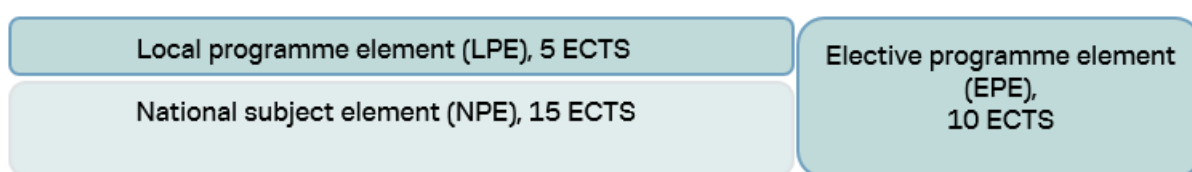

Figure 4: ECTS distribution, Semester 4
The student must complete a Specialization element (SE) in Semester 4. The student must bring to the Specialization element the knowledge gained from the subject areas of the programme. Figure 4 shows when in the semester the element is taken. The format is self-study, possibly interspersed with individual presentations and facilitative supervision. The learning objectives and content of the Local programme element are detailed in the institutional part of the curriculum, in Chapter 9.5, *Specialization Elements (SEs)*.